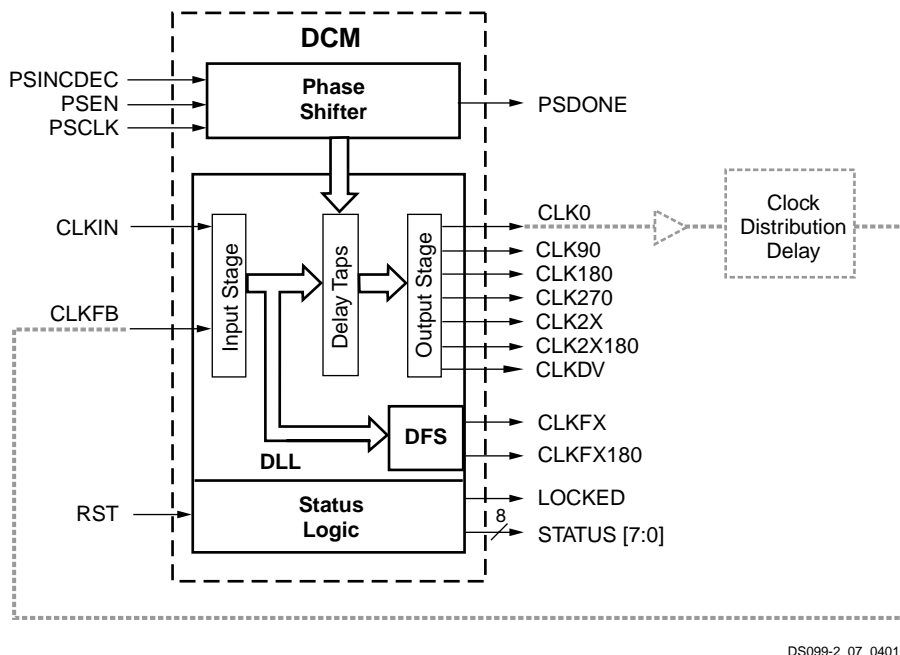

Figure 37: DCM Functional Blocks and Associated Signals
The DCM has four functional components: the Delay-Locked Loop (DLL), the Digital Frequency Synthesizer (DFS), the Phase Shifter (PS), and the Status Logic. Each component has its associated signals, as shown in Figure 37.